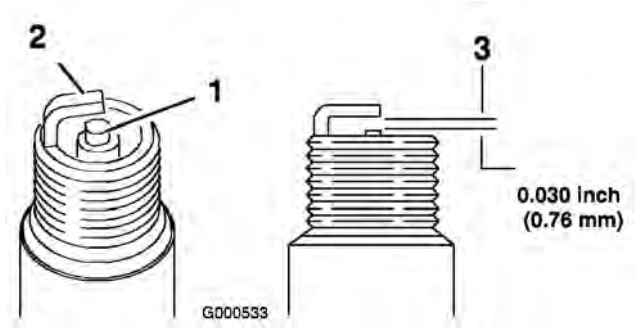

Figure 42
1. Look at the center of the spark plug(s) (Figure 42). If you see light brown or gray on the insulator, the engine is operating properly. A black coating on the insulator usually means the air cleaner is dirty.
2. Check the gap between the center and side electrodes (Figure 42). Bend the side electrode (Figure 42) if the gap is not correct.